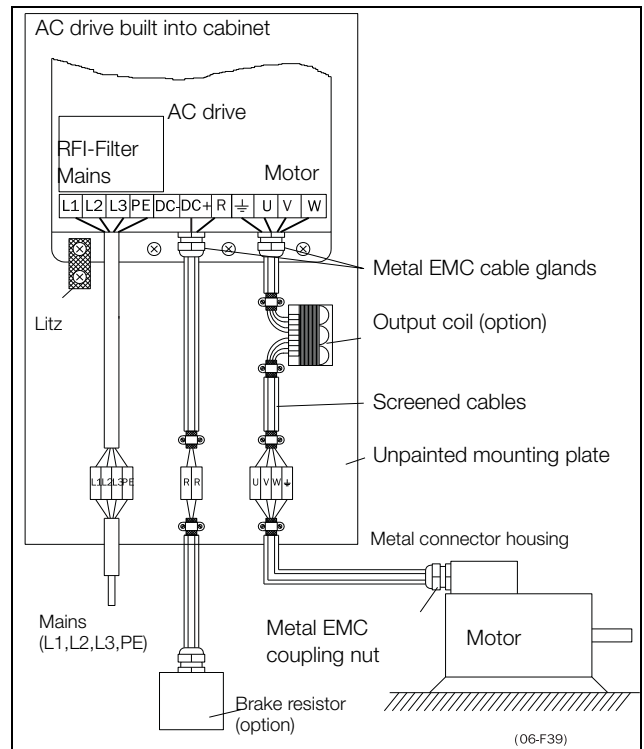

Fig. 48 AC drive in a cabinet on a mounting plate
- The litz ground connection see fig. 48, is only necessary if the mounting plate is painted. All the AC drives have an unpainted back side and are therefore suitable for mounting on an unpainted mounting plate.
- The litz ground connection, see fig. 48, is only necessary if the mounting plate is painted. All the AC drives have an unpainted back side and are therefore suitable for mounting on an unpainted mounting plate.
If the motor cables are to be interrupted by maintenance switches, output coils, etc., it is necessary that the screening is continued by using metal housing, metal mounting plates, etc. as shown in the Fig. 48.
- If the AC drive is mounted in a standard cabinet, the internal wiring must comply with the EMC standard. Fig. 48 shows an example of a AC drive built into a cabinet.